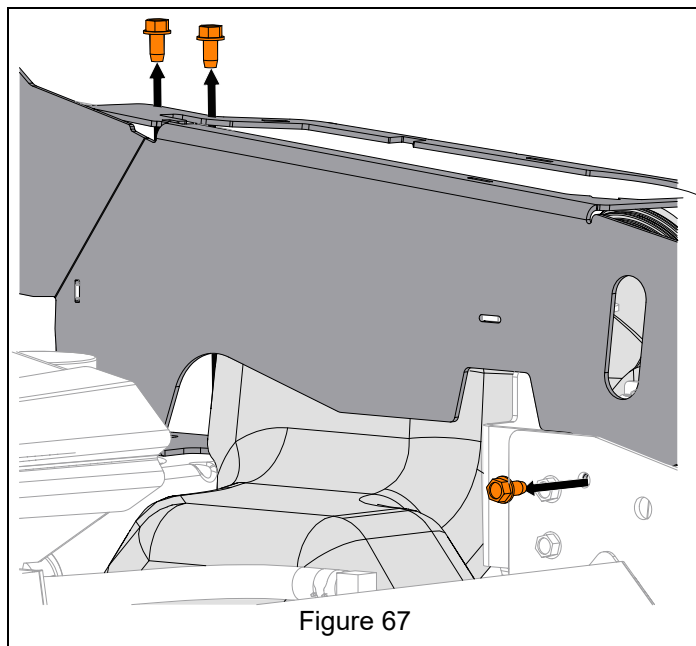

Figure 67
4. Remove three tapping screws securing left fender mount. Remove mount. See Figure 67.